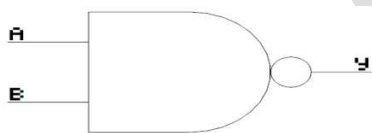

FIG 5
5. **NAND**: NAND gate is AND gate followed by NOT. Figure 5 represents the symbol of the NAND gate. The logic equation,  $Y = \overline{A \cdot B}$